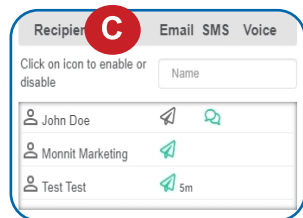

Figure 21
- C.** Recipient list identifies who will receive the notification. See Figure 21.